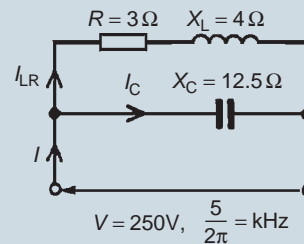

Figure 18.22
10. The following statements, taken correct to 2 significant figures, refer to the circuit shown in Fig. 18.22. Which are false?